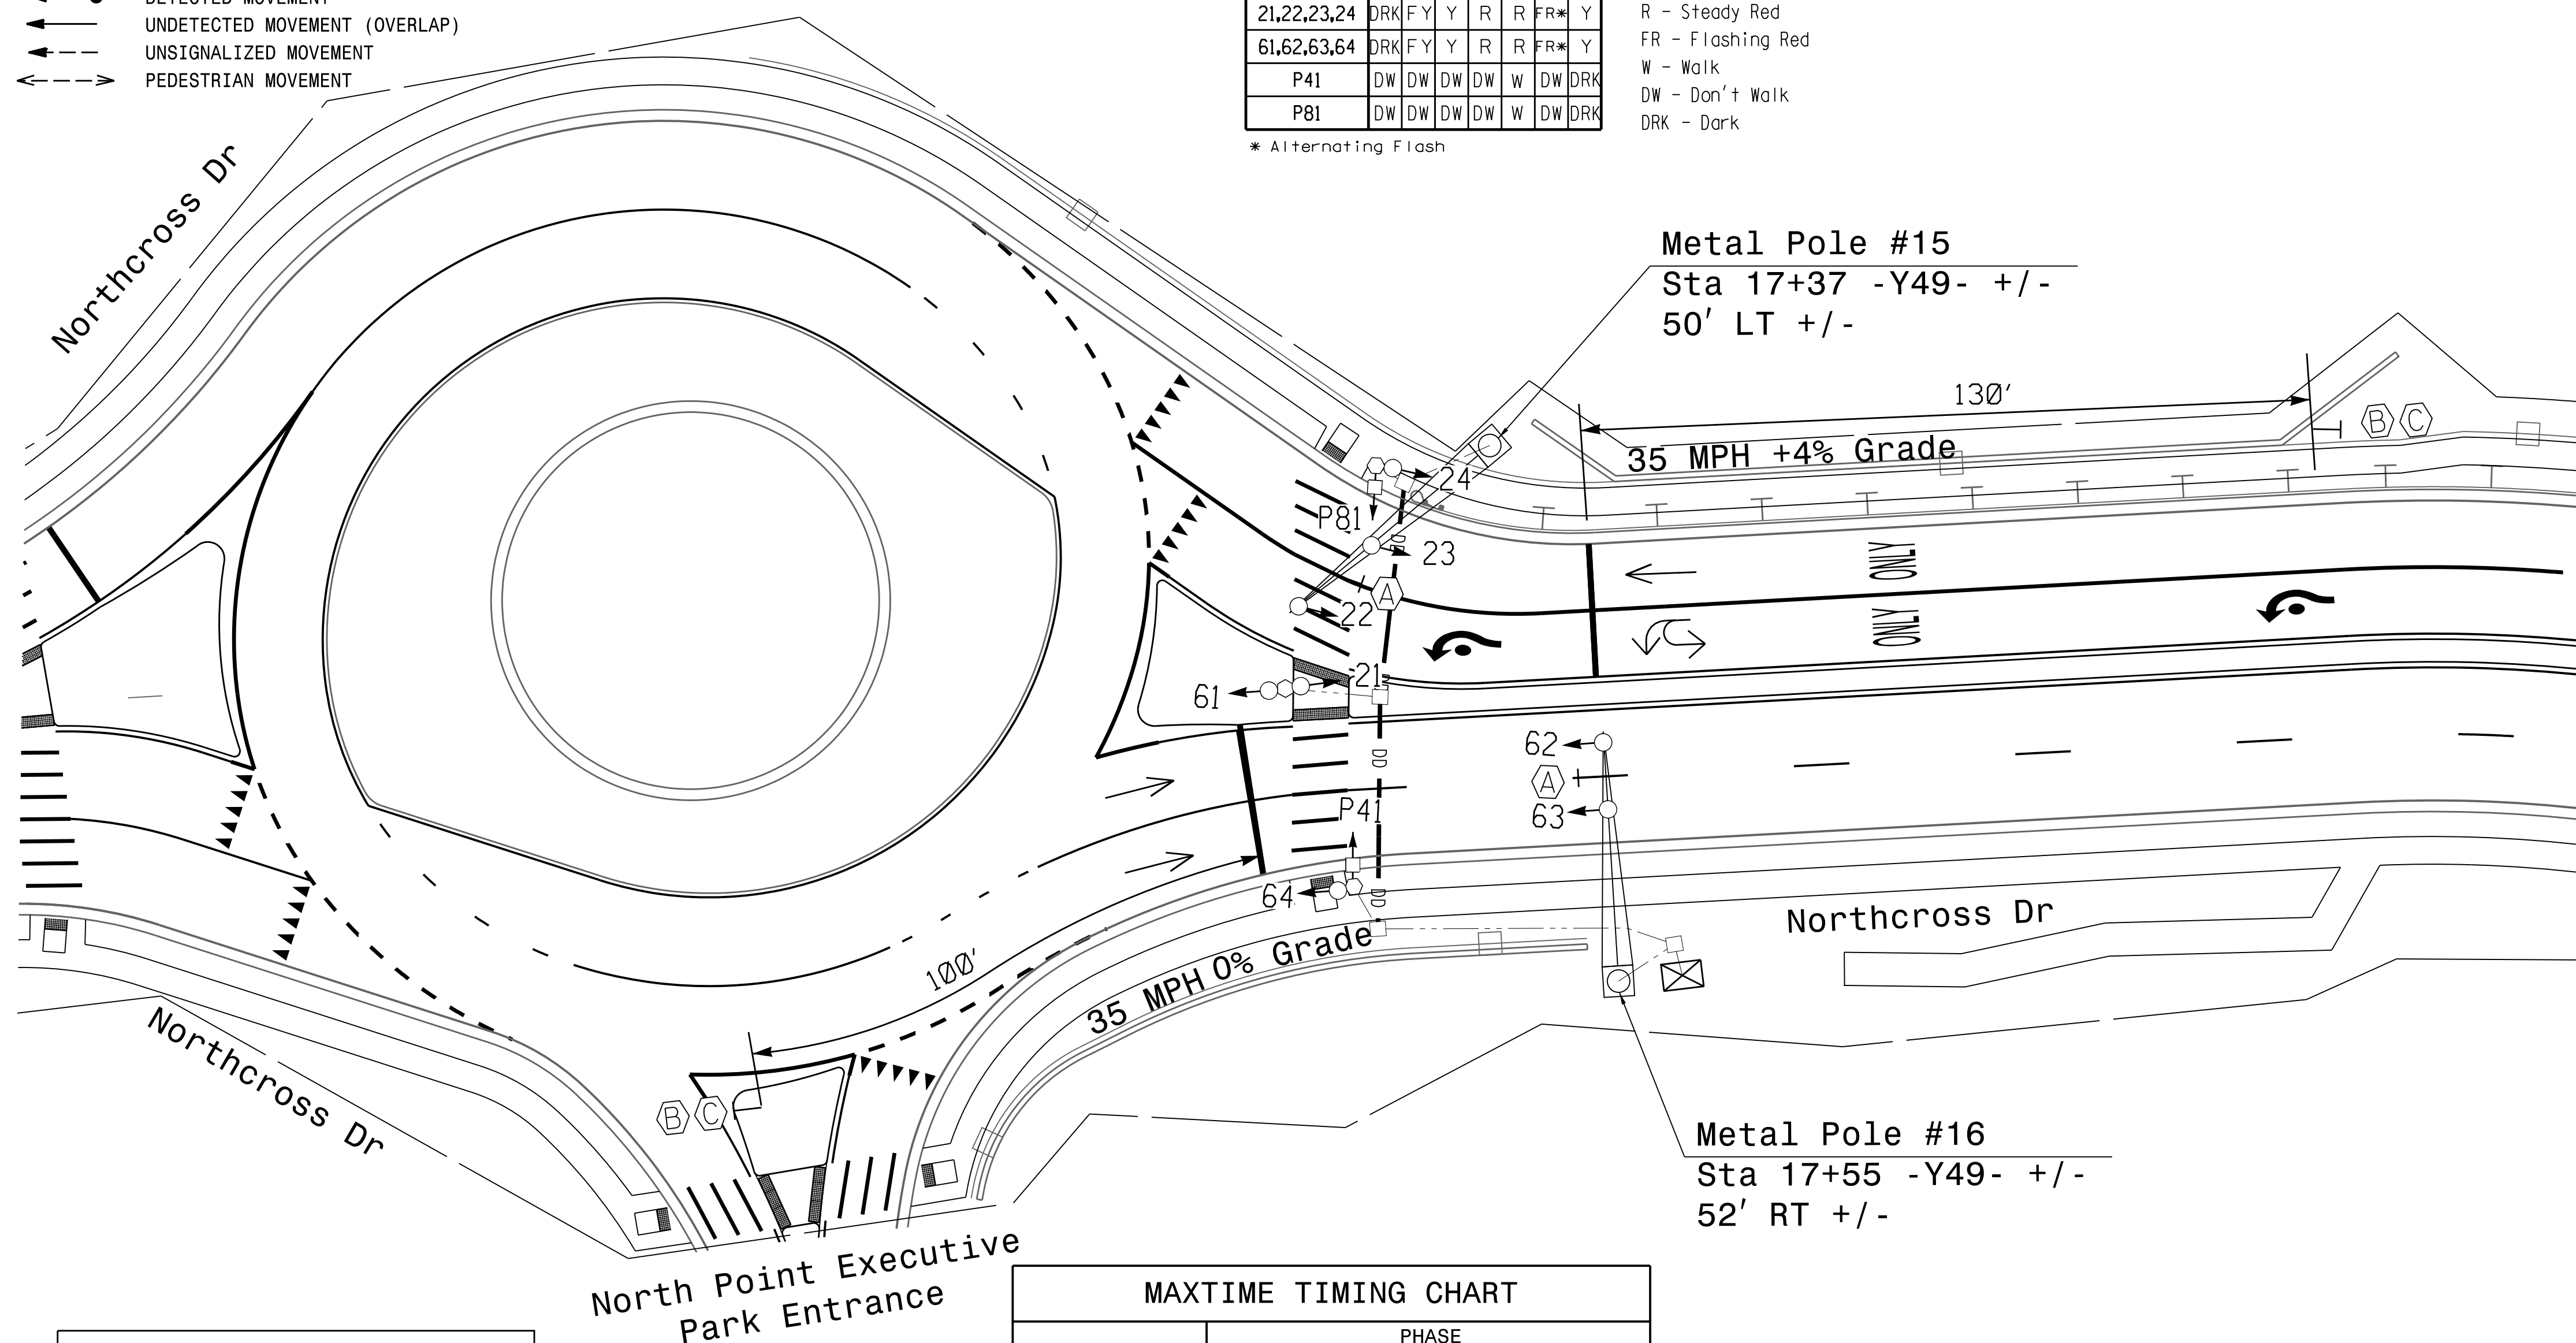

Figure 1
8. Pedestrian and Crosswalk advance signs (see Figure 1) located in accordance with Table 2C-3 in Section 2C.04 of the 2023 MUTCD or as otherwise directed by the Engineer.
Pedestrian Warning Sign (W11-2) (See Figure 1)
"AHEAD" Sign (W16-9p) (See Figure 1)